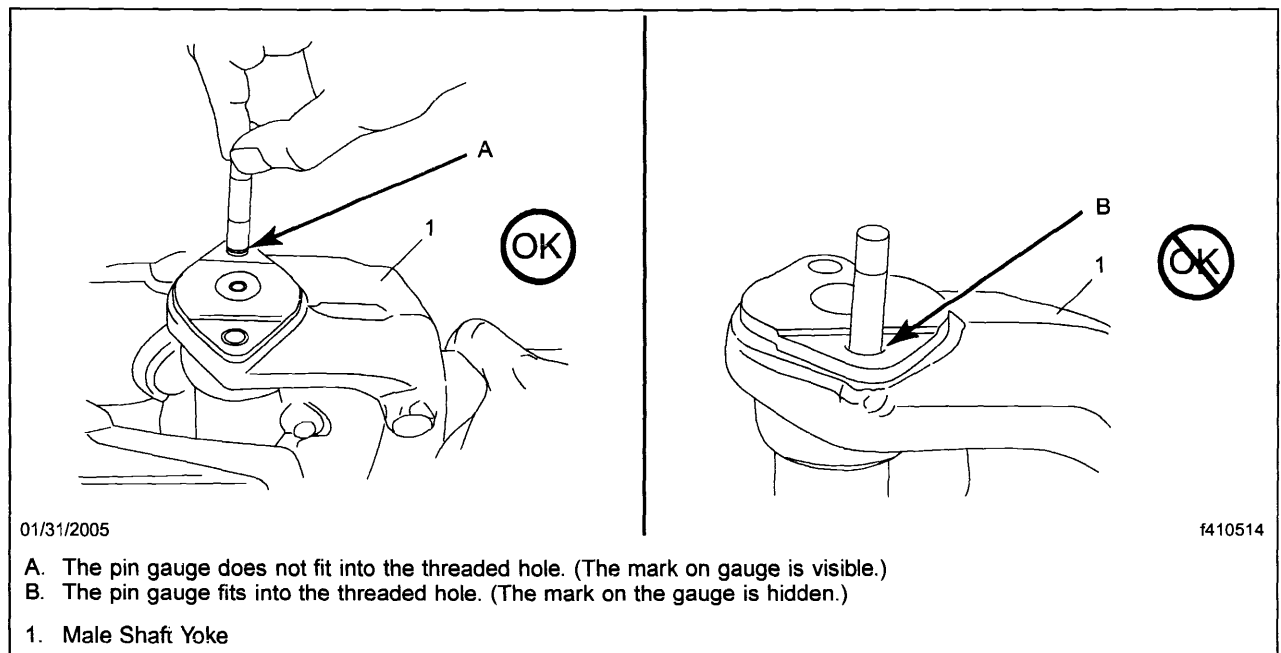

Fig. 2, Checking the Capscrew Holes
4. Try to insert the supplied pin gauge (p/n PNR6-32-18 from kit 25-FL436-000) into each of the four threaded holes on the cover plate of the male shaft yoke. See **Fig. 2**.